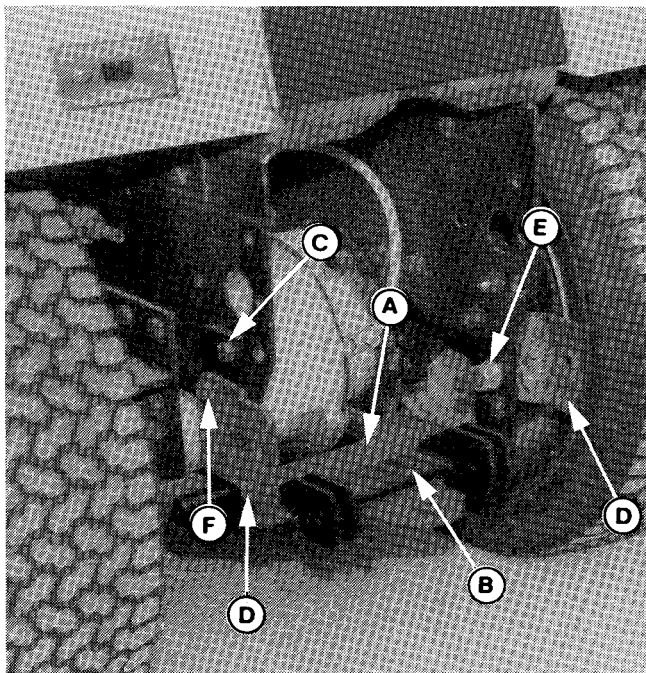

Figure 16.
1. Install the U-bracket (A, figure 16) with two 1/2-13 x 1-1/4 capscrews (B), 1/2 lockwashers, and nuts. At top hole on each side, install two 7/16-14 x 1/2 capscrews (C), lockwashers and nuts.
The U-bracket (A, figure 16) shown in figure 16 and 17 is an accessory hitch with additional "ears" for tiller attachment. U-bracket (51, figure 1) supplied with cart mounts in same location with supplied hardware.